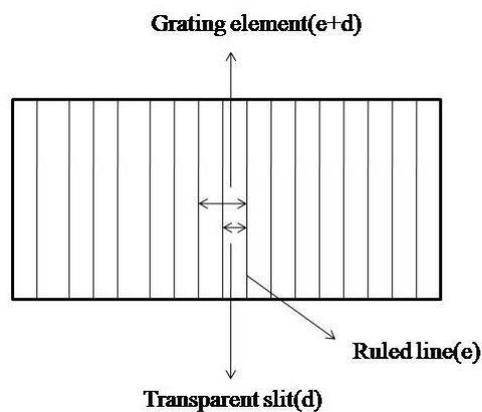

Fig.1.18. Construction of diffraction grating
- The distance between any two successive slits (or) ruled lines is called grating element as shown in Fig.1.18.